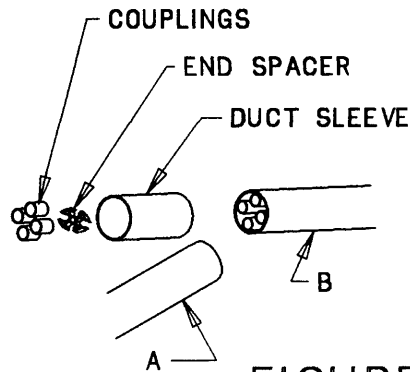

FIGURE 2
4. CEMENT COUPLINGS ONTO INNER DUCTS OF MULTI-GARD SECTION "B" AS SEEN IN FIGURE 2.